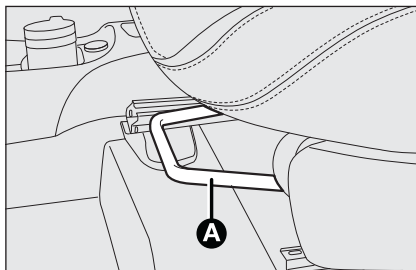

fig. 16
### Fore/aft adjustment fig. 16
**WARNING** Using the lever **D** before locking the seat in the initial position causes the loss of the seat initial position. In that case, it is necessary to adjust the seat position by means of the longitudinal adjustment **fig. 16**.